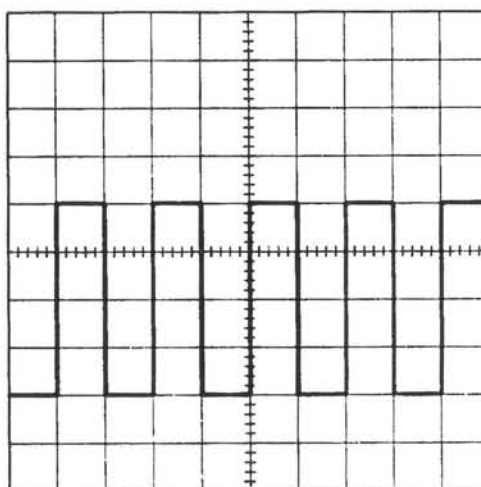

Figure 3-8. Preliminary Check Waveform
9. Verify that the waveform on the display appears like the one in Figure 3-8. If the waveform does appear the same, most of the main functions of the instrument are working. Go directly to paragraph 3-41, "Display Check".
10. If the waveform differs from that shown in Figure 3-8, use the information in Table 3-12 to help identify which of the main functions are not working correctly.
Difference in Waveform from Figure 3-8.	Possible Defective Functions